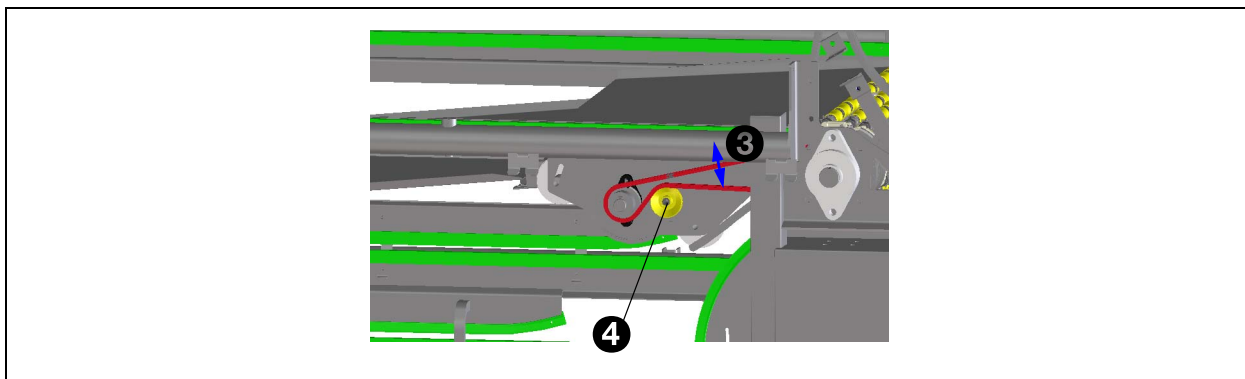

Fig. 44 - Detail of chain-tensioner
1. The play (3) in the drive-chain can amount to a maximum of 10 mm. See fig. 44.
2. Adjust the play with the chain-tensioner (4).